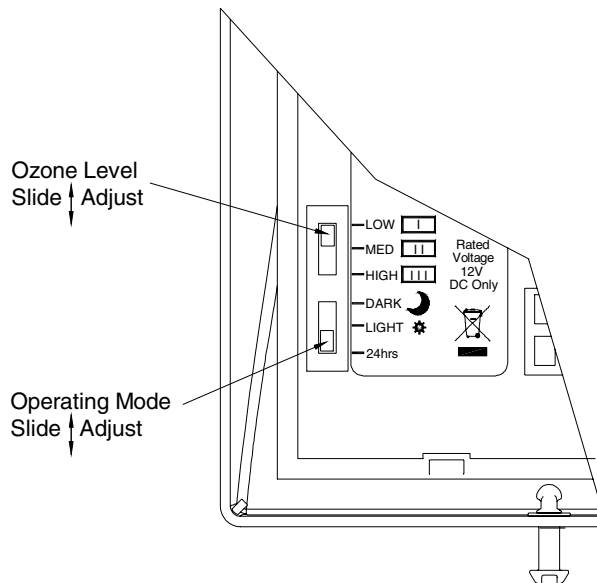

Fig 3
2. PROZONE® is factory set to operate continuously but can be programmed to operate either only when light or only when dark. Set the Operating Mode switch to the desired option. (Fig 3)
4. PROZONE® is factory set to the low output. The Ozone Level switch (Fig 3) should be adjusted if necessary by reference to the room sizing chart located within the cover.